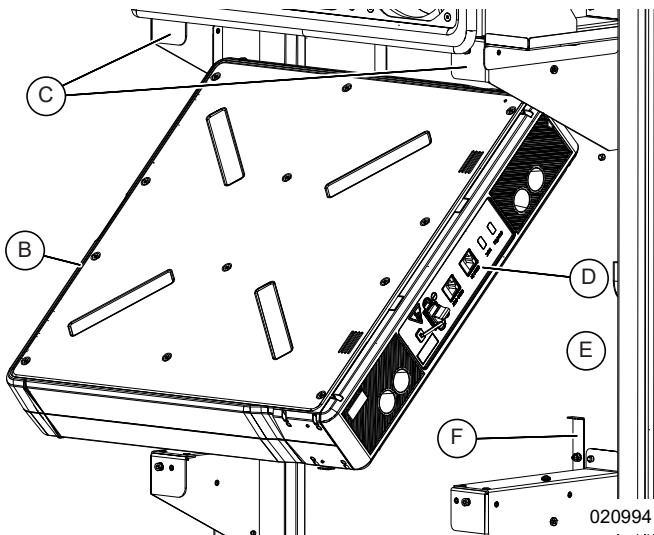

Figure 4-12. Installing Rear Battery Modules (1 of 2)
1. See Figure 4-12. Angle the top of the battery module (B) under and behind the bracket lip (C).